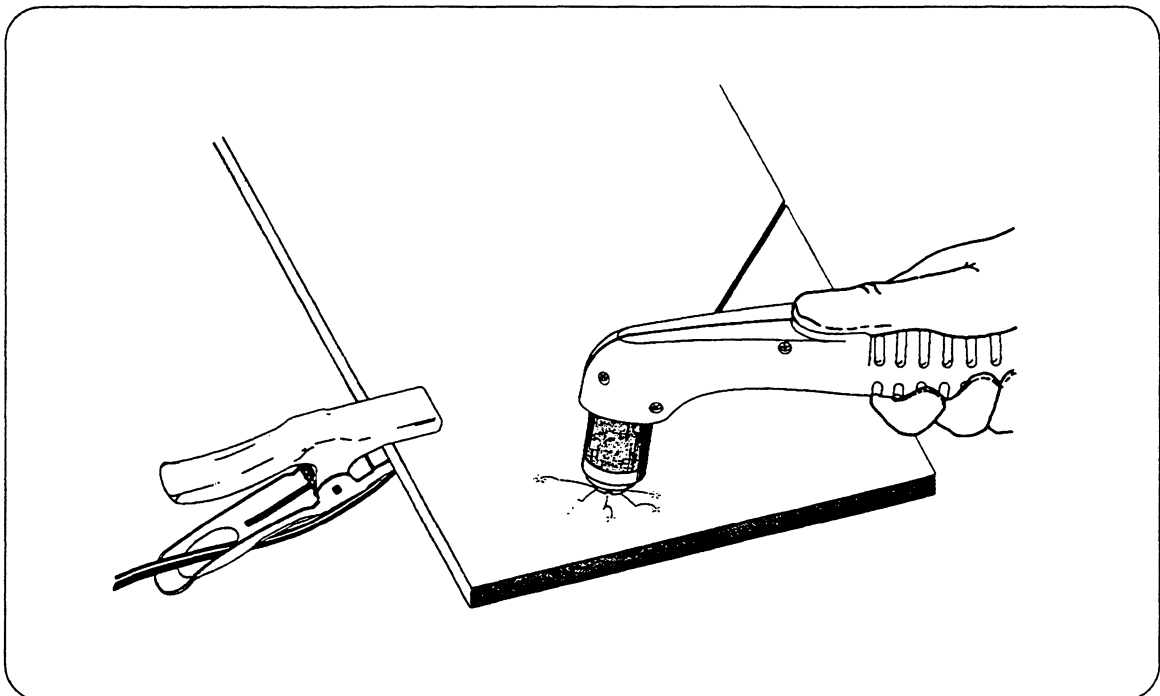

Figure 4-2 Proper Work Clamp Connection
13. Adjust the work clamp to the work table or workpiece. Do not attach the work clamp to the portion of the workpiece that will fall away. See Figure 4-2.